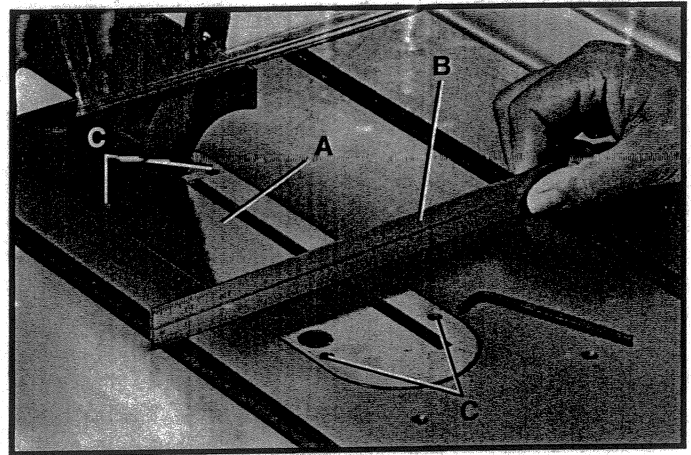

Fig. 72
Place a straight edge (B) across the table at both ends of the table insert as shown in Fig. 72. The table insert (A) should always be level with the table. If an adjustment is necessary, turn the adjusting screws (C), as needed. Four adjusting screws (C) are supplied.